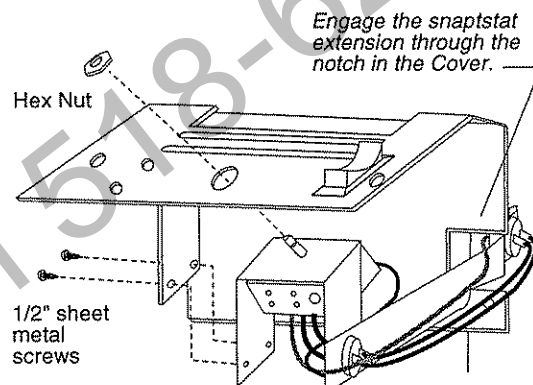

Figure 21. Install Rheostat/Snapstat assembly.
6. Remove the plug from the Control Switch. Reach under the Back Panel and feed the Fan Rheostat/Snapstat assembly up to the top of the firebox. Secure the rheostat assembly to the Switch Cover the sheet metal screws supplied with the fan kit. Fig. 21.